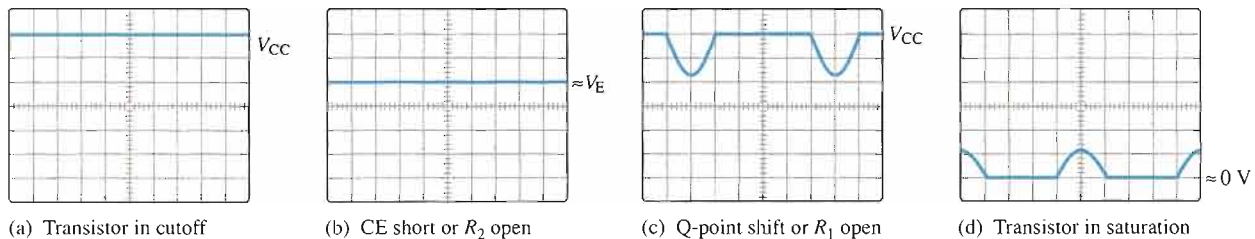

FIGURE 9–31
Oscilloscope displays showing output voltage for the amplifier in Figure 9–30 for several types of failures.
In Figure 9–31(b), the scope displays a dc level at the collector approximately equal to the dc emitter voltage. The two probable causes of this indication are (1) the transistor is shorted from collector to emitter, or (2) R_2 is open, causing the transistor to be biased in saturation. In the second case, a sufficiently large input signal can bring the transistor out of saturation on its negative peaks, resulting in short pulses on the output.